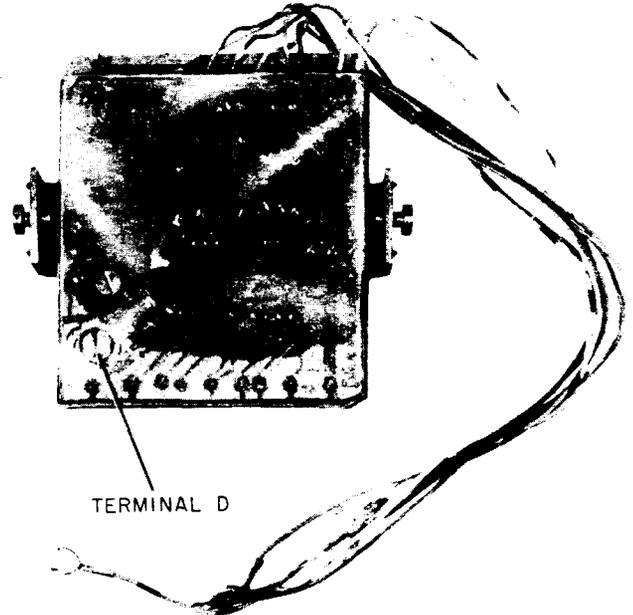

Fig. 2—72C3A (MD) Dial, Rear View
2.06 Each dial has eight spade-tipped leads (Fig. 11, 12, 13, and 14) for connections to the telephone set network and one screw terminal (D) located on the back side of the dial (Fig. 2, 4, 5, 6, and 7) where a line switch lead terminates. ◆The Z72JG3B and Z72JG3BE dials have a cable assembly for connections to the telephone set instead of spade-tipped leads and terminal D (Fig. 15 and 16).◆